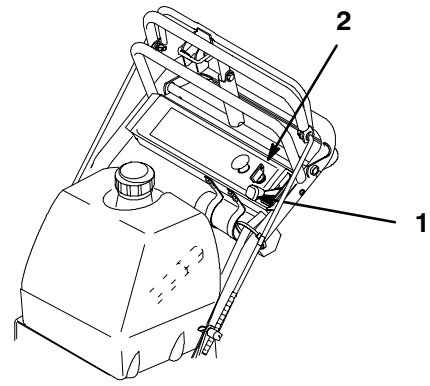

Figure 15
1. Move the throttle lever to “SLOW” (Fig. 15).
3. Turn the ignition key to “OFF” (Fig. 15).